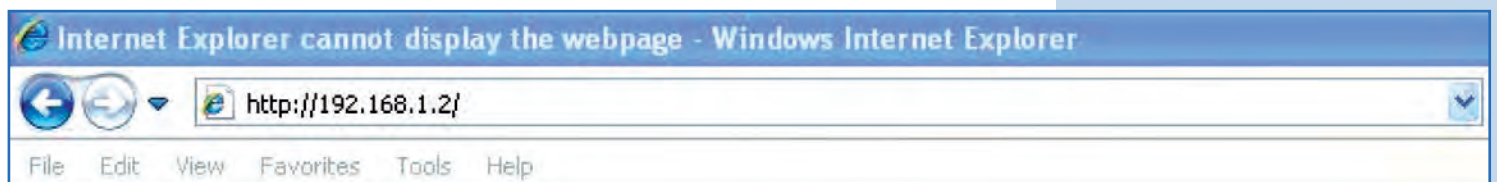

Figure 3f
- f. Open the web browser of your preference and type the default address **192.168.1.2**, as shown in **Figure 3f**.